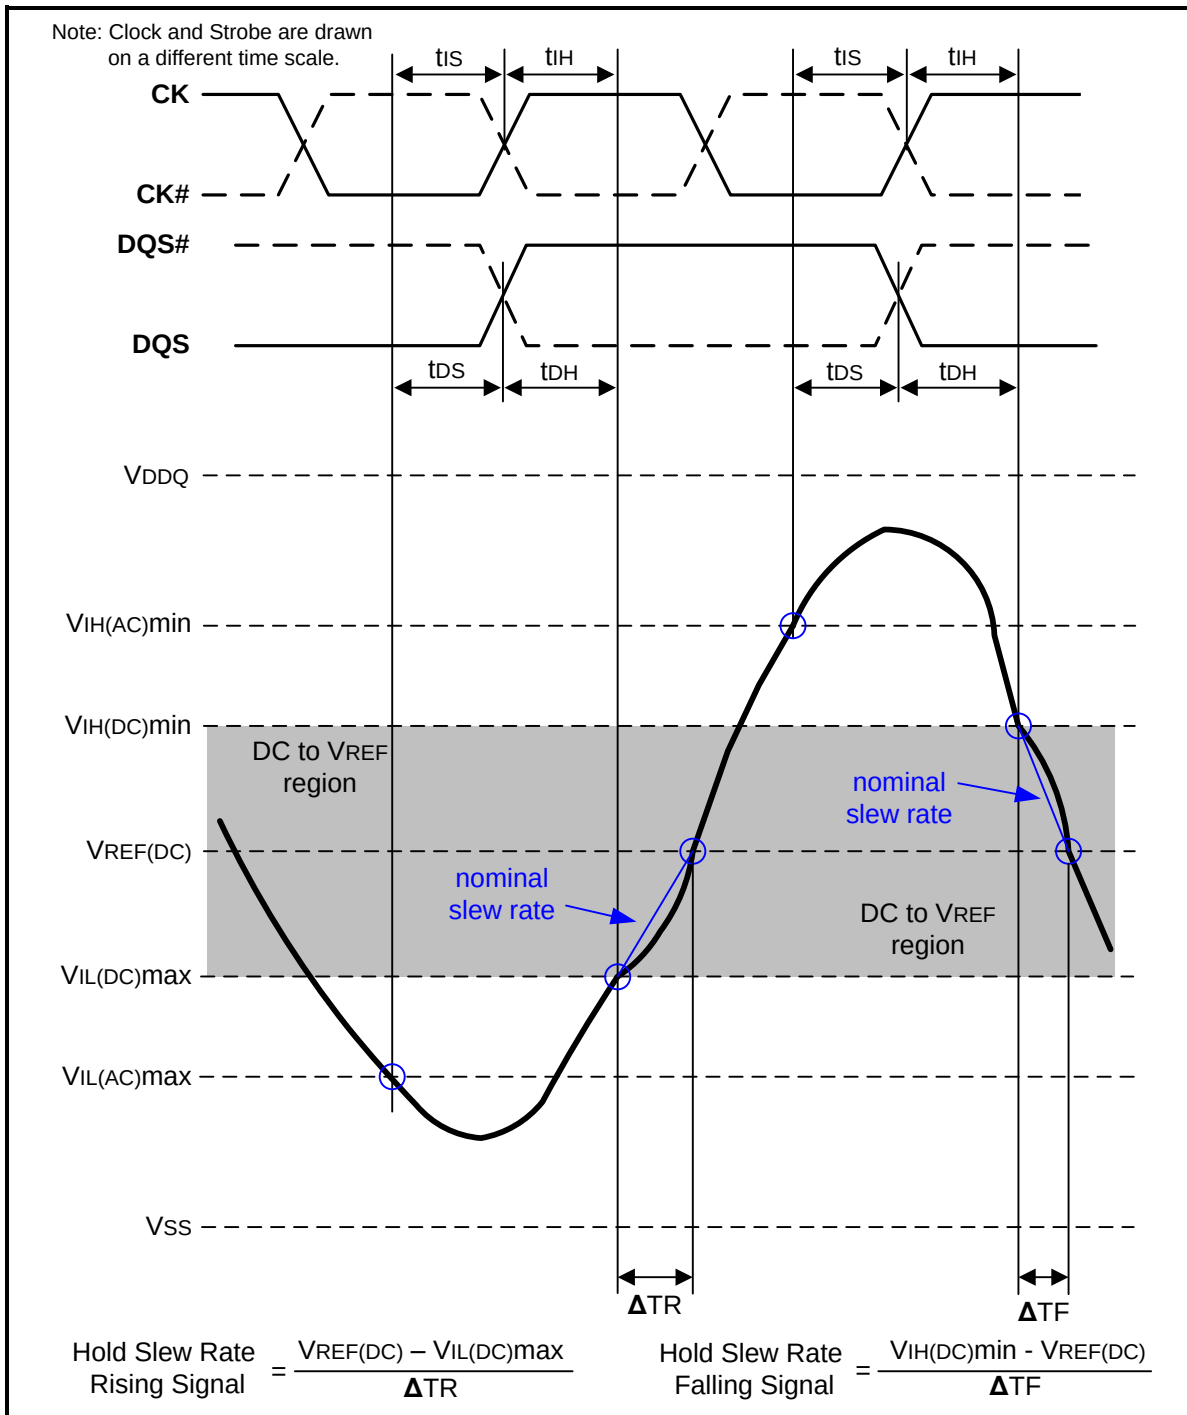
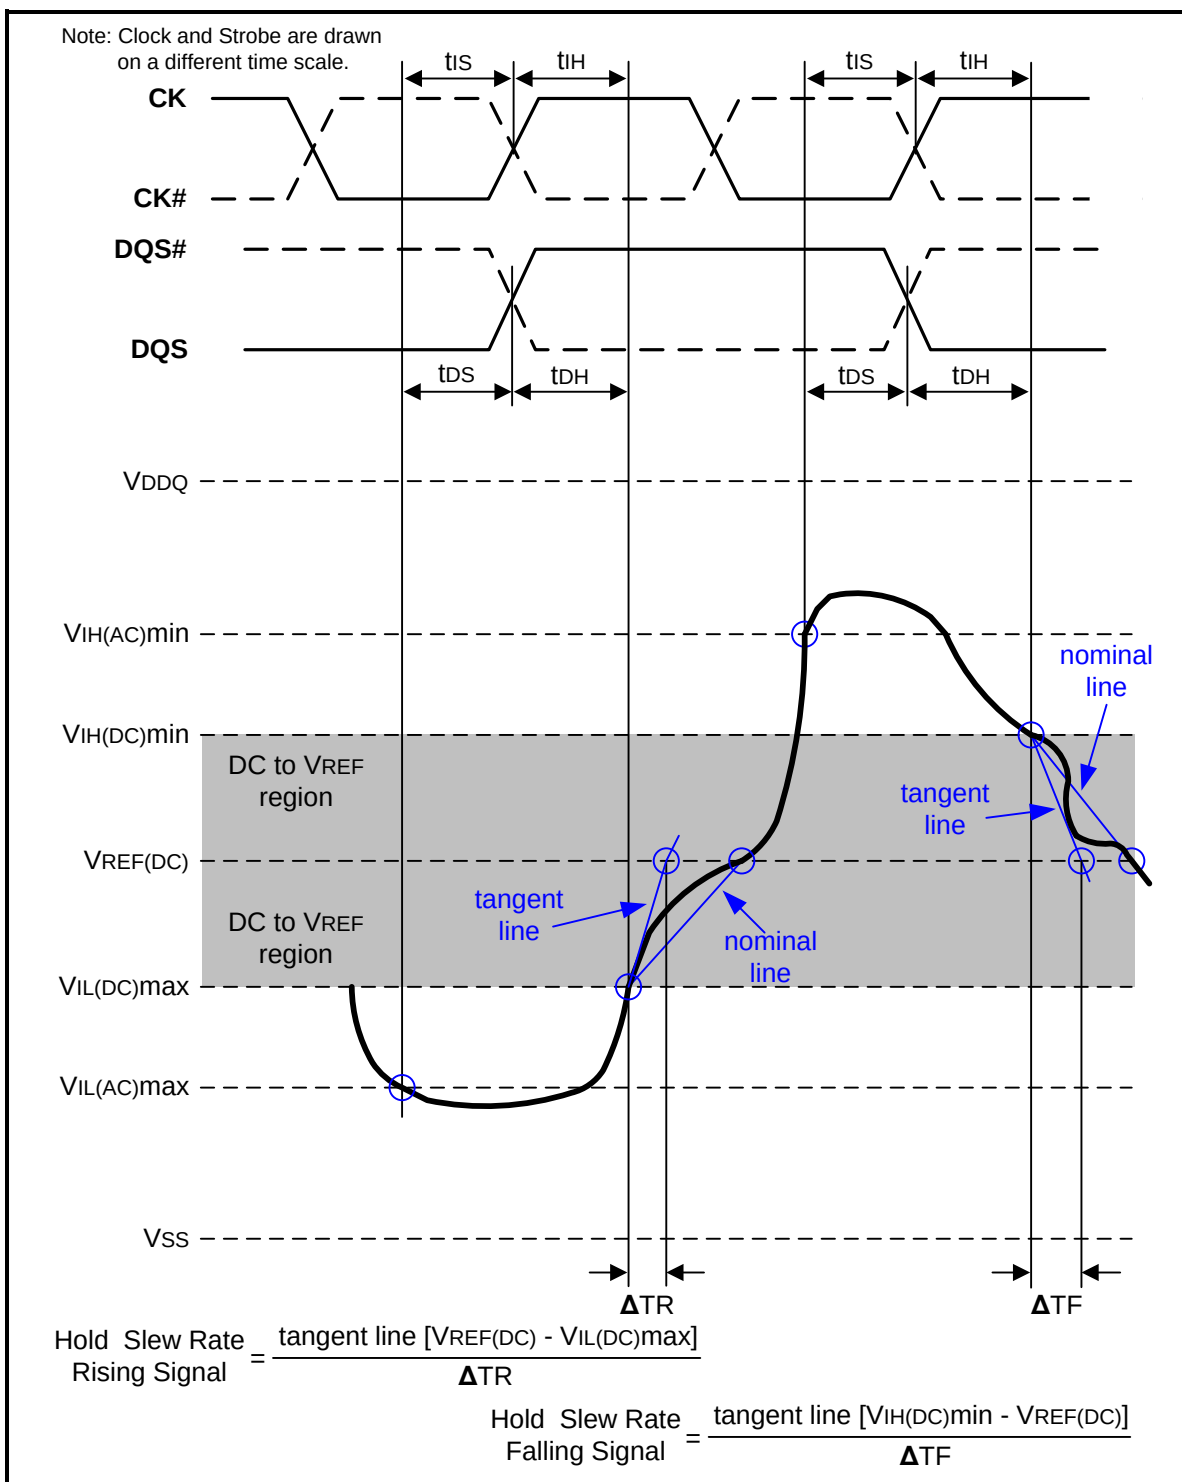

**Figure 108 – Illustration of nominal slew rate for hold time  $t_{DH}$  (for DQ with respect to strobe) and  $t_{IH}$  (for ADD/CMD with respect to clock)**
Figure 110 – Illustration of tangent line for hold time  $t_{\text{DH}}$  (for DQ with respect to strobe) and  $t_{\text{IH}}$  (for ADD/CMD with respect to clock)
Hold ( $t_{IH}$ ) nominal slew rate for a rising signal is defined as the slew rate between the last crossing of  $V_{IL}(\text{DC})_{\text{max}}$  and the first crossing of  $V_{REF}(\text{DC})$ . Hold ( $t_{IH}$ ) nominal slew rate for a falling signal is defined as the slew rate between the last crossing of  $V_{IH}(\text{DC})_{\text{min}}$  and the first crossing of  $V_{REF}(\text{DC})$ . If the actual signal is always later than the nominal slew rate line between shaded 'DC to VREF(DC) region', use nominal slew rate for derating value (see Figure 108). If the actual signal is earlier than the nominal slew rate line anywhere between shaded 'DC to VREF(DC) region', the slew rate of a tangent line to the actual signal from the DC level to  $V_{REF}(\text{DC})$  level is used for derating value (see Figure 110).
Hold (tDH) nominal slew rate for a rising signal is defined as the slew rate between the last crossing of VIL(DC)max and the first crossing of VREF(DC). Hold (tDH) nominal slew rate for a falling signal is defined as the slew rate between the last crossing of VIH(DC)min and the first crossing of VREF(DC) (see Figure 108). If the actual signal is always later than the nominal slew rate line between shaded 'DC level to VREF(DC) region', use nominal slew rate for derating value. If the actual signal is earlier than the nominal slew rate line anywhere between shaded 'DC to VREF(DC) region', the slew rate of a tangent line to the actual signal from the DC level to VREF(DC) level is used for derating value (see Figure 110).